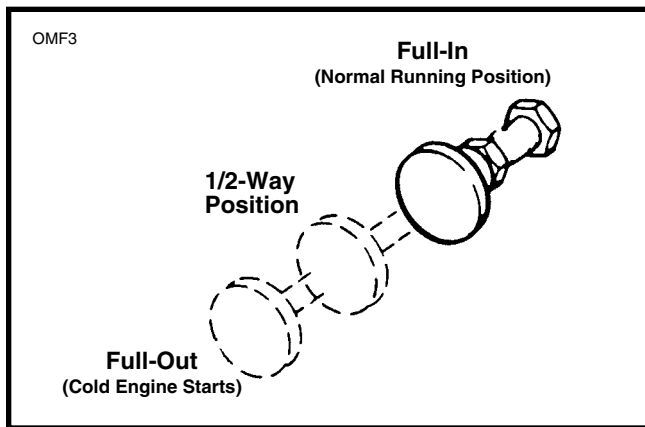

Figure 21. Set the Enricher Knob
1. See Figure 21. After initial 15-30 second warm-up, ride for 3 minutes or 2 miles with enricher knob in full out position.
1. See Figure 21. After initial 15-30 second warm-up, ride for 1 minute or 1/2 mile with enricher knob in full out position.